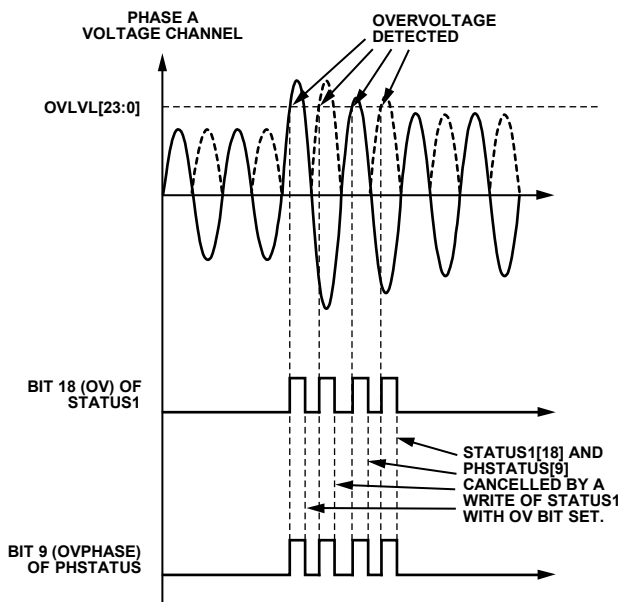

Figure 60. Overvoltage Detection
The ADE7880 detects when the instantaneous absolute value measured on the voltage and current channels becomes greater than the thresholds set in the OVLVL and OILVL 24-bit unsigned registers. If Bit 18 (OV) in the MASK1 register is set, the  $\overline{\text{IRQ1}}$  interrupt pin is driven low in case of an overvoltage event. There are two status flags set when the  $\overline{\text{IRQ1}}$  interrupt pin is driven low: Bit 18 (OV) in the STATUS1 register and one of Bits[11:9] (OVPHASE[2:0]) in the PHSTATUS register to identify the phase that generated the overvoltage. The Status Bit 18 (OV) in the STATUS1 register and all Bits[11:9] (OVPHASE[2:0]) in the PHSTATUS register are cleared, and the  $\overline{\text{IRQ1}}$  pin is set to high by writing to the STATUS1 register with the status bit set to 1. Figure 60 presents overvoltage detection in the Phase A voltage.